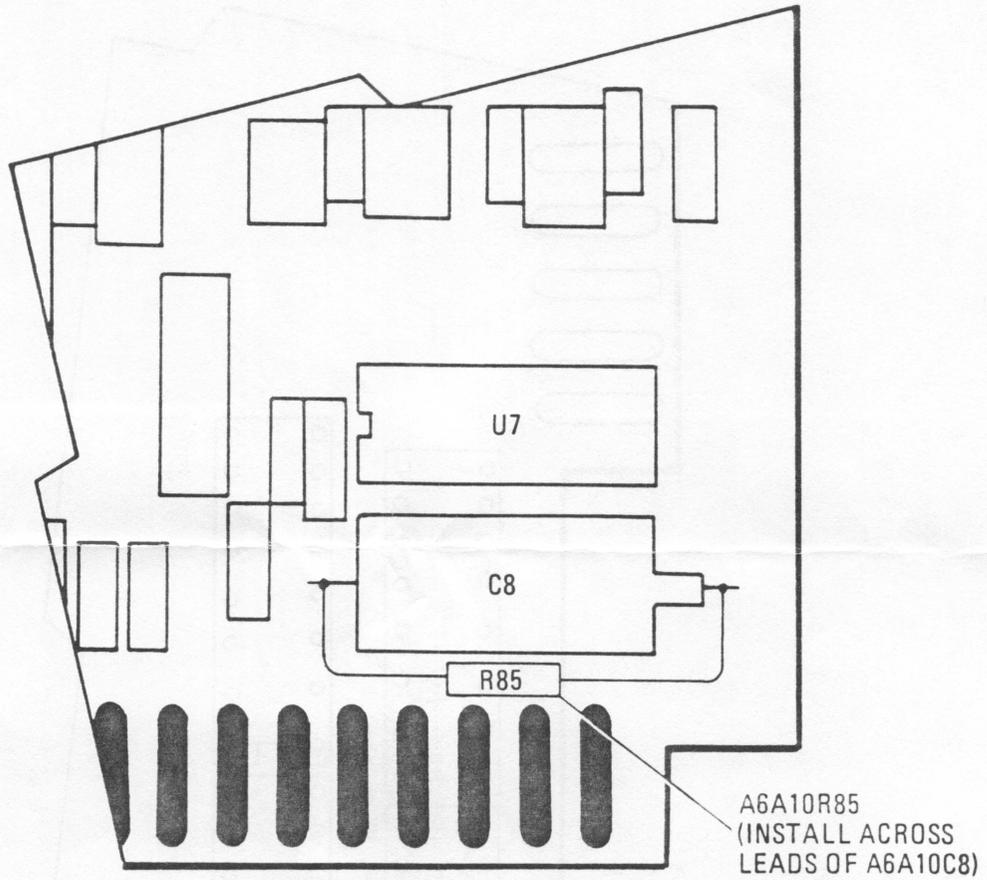

Figure 13. Proper Installation of A6A10R85, Partial Component Locations - Component Side
- o. As shown in Figure 13, clip and dress leads of resistor A6A10R85 supplied in Retrofit Kit (HP Part Number 0698-7260, RESISTOR 10K 1% .05W F) and install across leads of capacitor A6A10C8 (HP Part Number 0180-0097, CAPACITOR-FXD 47 uF 35 VDC TA), using heat-shrink tubing as necessary to ensure that resistor does not short to traces on board. Resistor A6A10R85 provides a bleed-down path for residual charge on +22 Vdc filter capacitor A6A10C8, which prevents possible circuitry damage during any subsequent A6A10 Miscellaneous Bias/Relay Driver Assembly troubleshooting or repair.